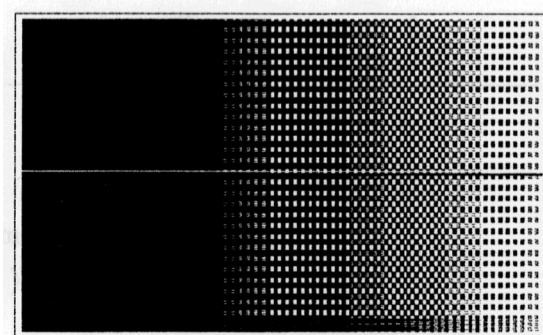

Fig.1
4. Press the "6" key on the keyboard. After the pattern shown in Fig. 1 at right has appeared, press the "R" key to get the red image displayed for checking. Check the other colors as well (\*1).